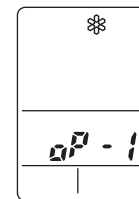

Fig. 34
- d) ✻ appears and “oP-1” blinking in the remote controller clock display area. (Fig. 34)